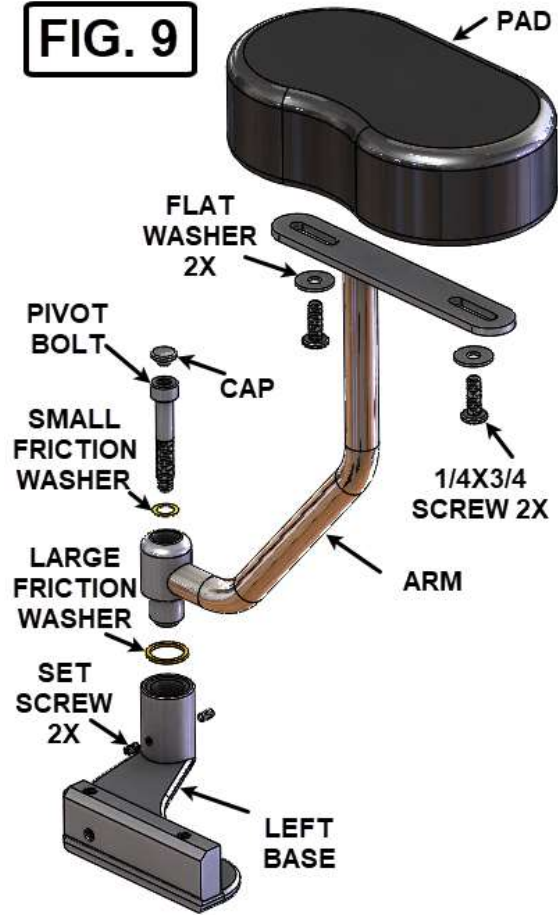

FIG. 10
9. ASSEMBLE THE LEFT ARM REST AS SHOWN IN FIG. 9. BOLT THE LEFT ARM REST ASSEMBLY TO THE LEFT GRAB HANDLE USING THE THREE M6 BOLTS AND ONE FLAT WASHER ON THE INSIDE BOLT (SHOWN IN FIG. 10).